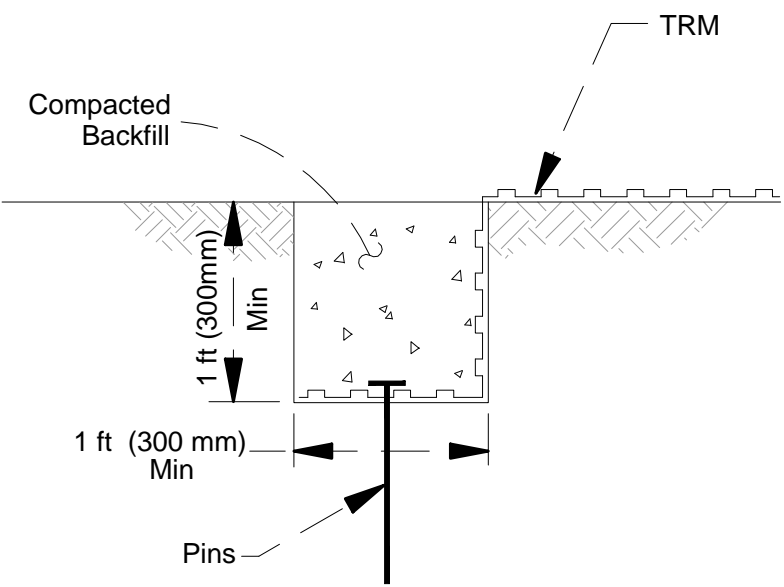

FIGURE 3: LONGITUDINAL EDGE TRENCH DETAIL
- Excavate a longitudinal edge trench 12 in wide x 12 in deep (300 x 300 mm) minimum along both sides of the installation to bury edges of mat (see Figure 3). The trench shall be located 24 in (600 mm) minimum over crest of slope.
- Secure longitudinal edge trench with pinning devices on 12 in (300 mm) centers (see Figure 3).